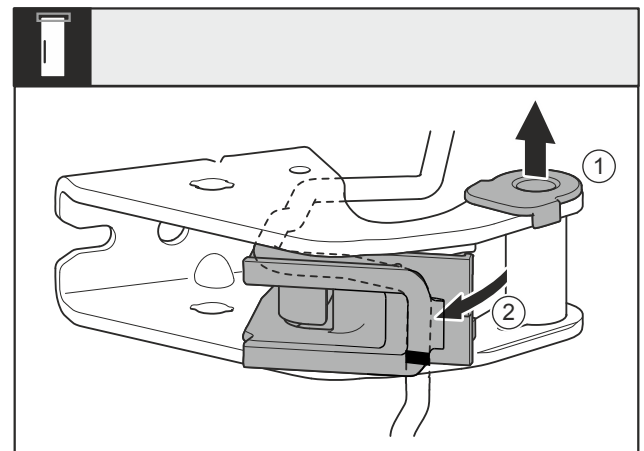

Fig. 21
- ▶ Pull out the bearing bushing Fig. 21 (1) from the guide.
- ▶ Swing out the cable bracket Fig. 21 (2).